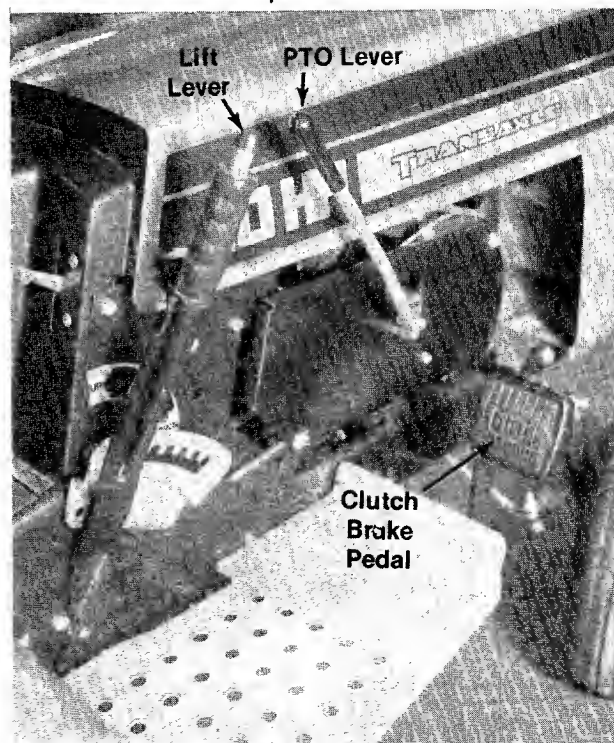

FIGURE 15
**e. PTO Lever.** The PTO lever engages the deck belt when it is moved forward. Moving it to the rear disengages the deck belt. The engine will not start unless the PTO is in the OFF position as shown in figure 15.
**f. Lift Lever.** Depress the thumb button and pull back on the lift lever to raise the attachments. See figure 15.
Step 3. Place the PTO lever in the **OFF** position as shown in figure 15.
Step 4. Depress the clutch brake pedals all the way down. See figure 15.
Move the PTO lever towards you to stop the blades from turning. See figure 15.